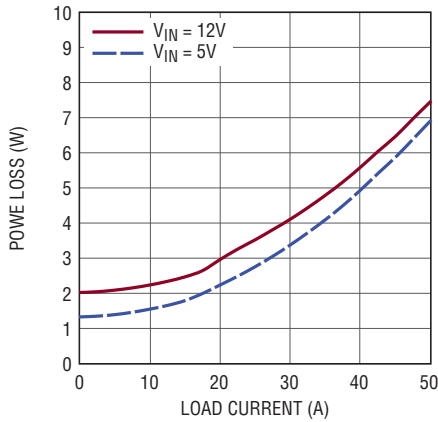
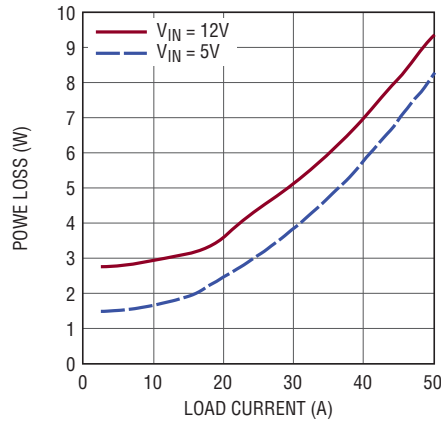
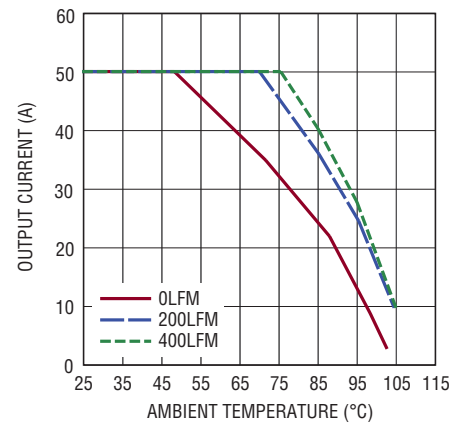

Figure 14. 0.9V Output Power Loss Curve
Figure 15. 1.5V Output Power Loss Curve
Figure 23. 12V to 1.5V Derating Curve, BGA Heat Sink
The 0.9V and 1.5V power loss curves in Figure 14 and Figure 15 can be used in coordination with the load current derating curves in Figure 16 to Figure 23 for calculating an approximate  $\theta_{JA}$  thermal resistance for the LTM4650-1 with various heat sinking and airflow conditions. The power loss curves are taken at room temperature, and are increased with a 1.2 multiplicative factor at 120°C.
**Table 4. Output Voltage Response vs Component Matrix (Refer to Figure 23) Load Step Typical Measured Values**